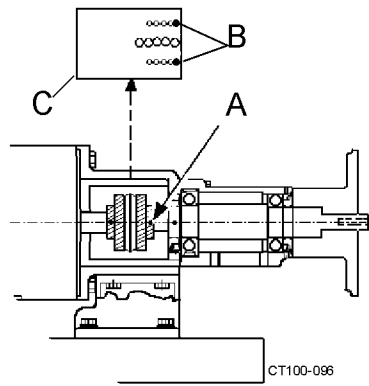

Figure 45 - Removing Coupling Covers
7. Remove the coupling cover cap screws (Figure 45, item B).
8. Loosen the setscrews on the pump coupling (Figure 45, item A).